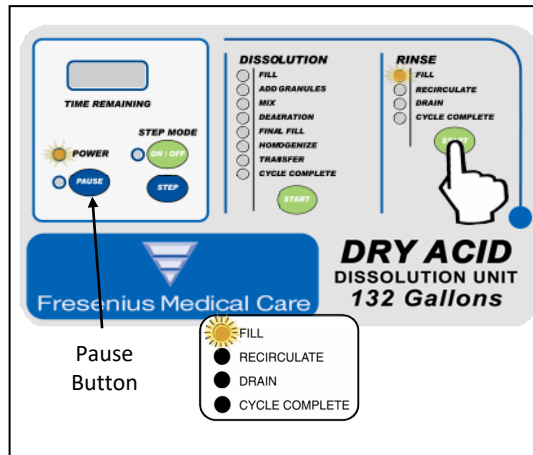

Figure 19
1. Turn the power switch ON and ensure that the water supply valve is OPEN then press the Rinse START button. The Fill Indicator LIGHT will illuminate indicating the RINSE CYCLE has started and the Dry Acid Dissolution Unit is in the first FILL Operation (Figure 19).